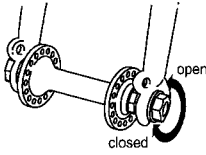

Fig. 10 Loosen two axle nuts
(2) With a correctly sized box wrench or a six inch adjustable wrench, loosen the two axle nuts (Fig. 10).
(3) If your front fork has a *clip-on* type secondary retention device, disengage it and go to step (4). If your front fork has an *integral* secondary retention device, loosen the axle nuts about six full turns; then go to step (4).
(4) Raise the front wheel a few inches off the ground and tap the top of the wheel with the palm of your hand to knock the wheel out of the fork ends.
(1) Open the rear brake shoes (see par. 2.a. page 27).
(2) With a correctly sized box wrench or a six-inch adjustable wrench, loosen the two axle nuts (Fig. 10).
(3) Push the wheel forward to slacken the chain, and remove the chain from the chainring and wheel sprocket.
(4) Pull the wheel out of the frame.